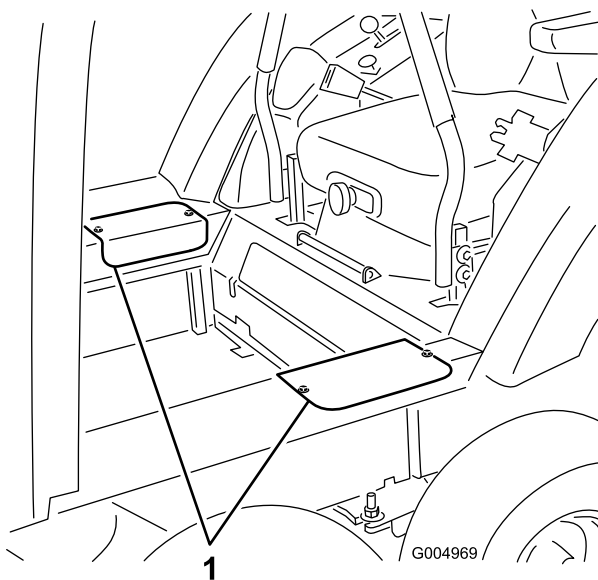

Figure 51
14. Remove the two screws securing each side access cover and remove the covers (Figure 51).